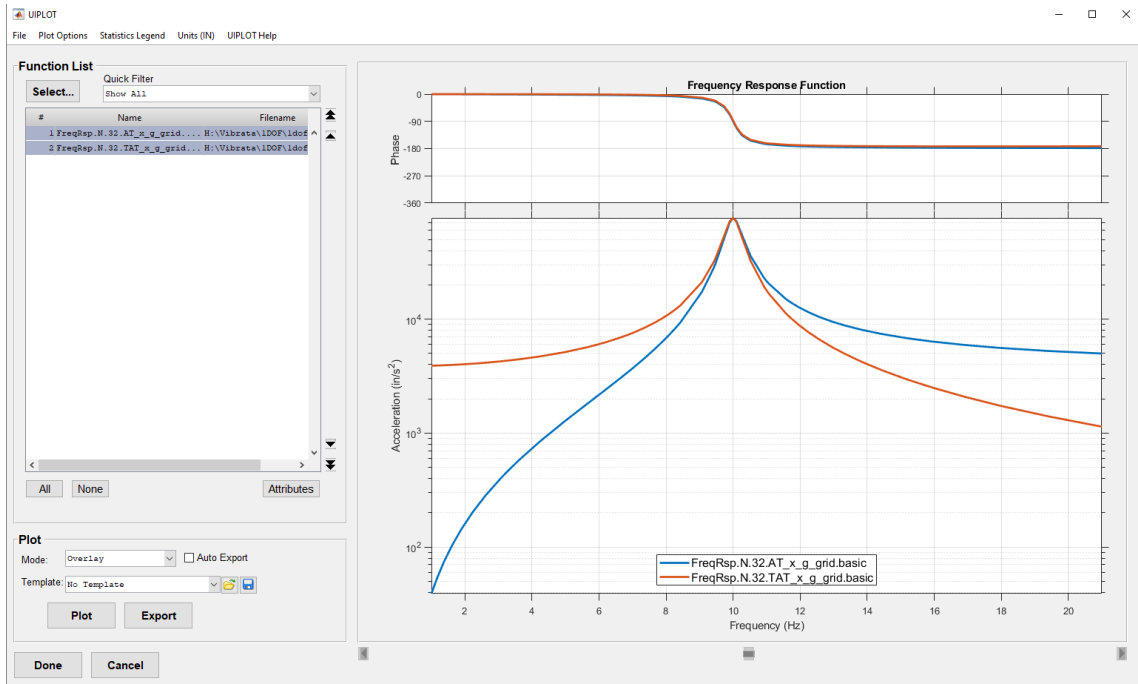

Figure 4-18. Select and plot both requested acceleration responses at once.
- c. In the *UIPLOT* dialog, select both functions and click **Plot** to display the results (Figure 4-18). Notice the dynamic amplification and phase change of the responses at the natural frequency.